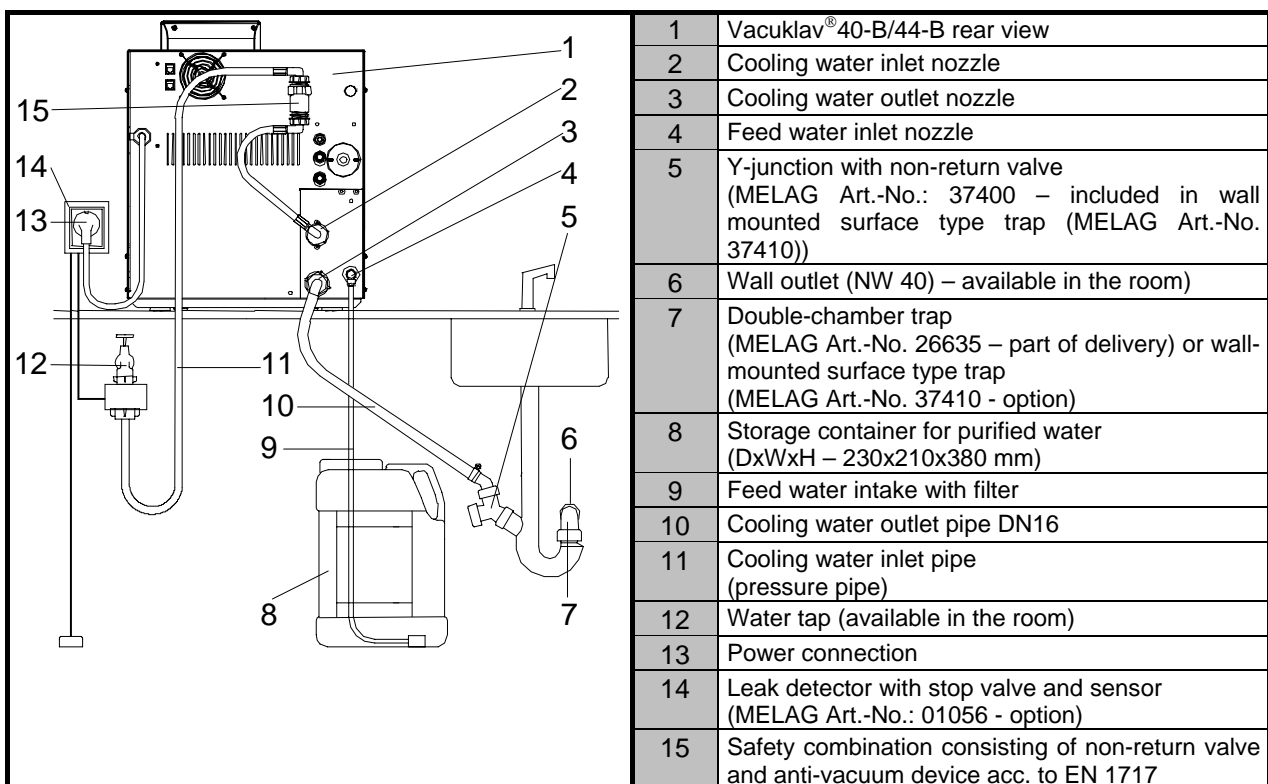
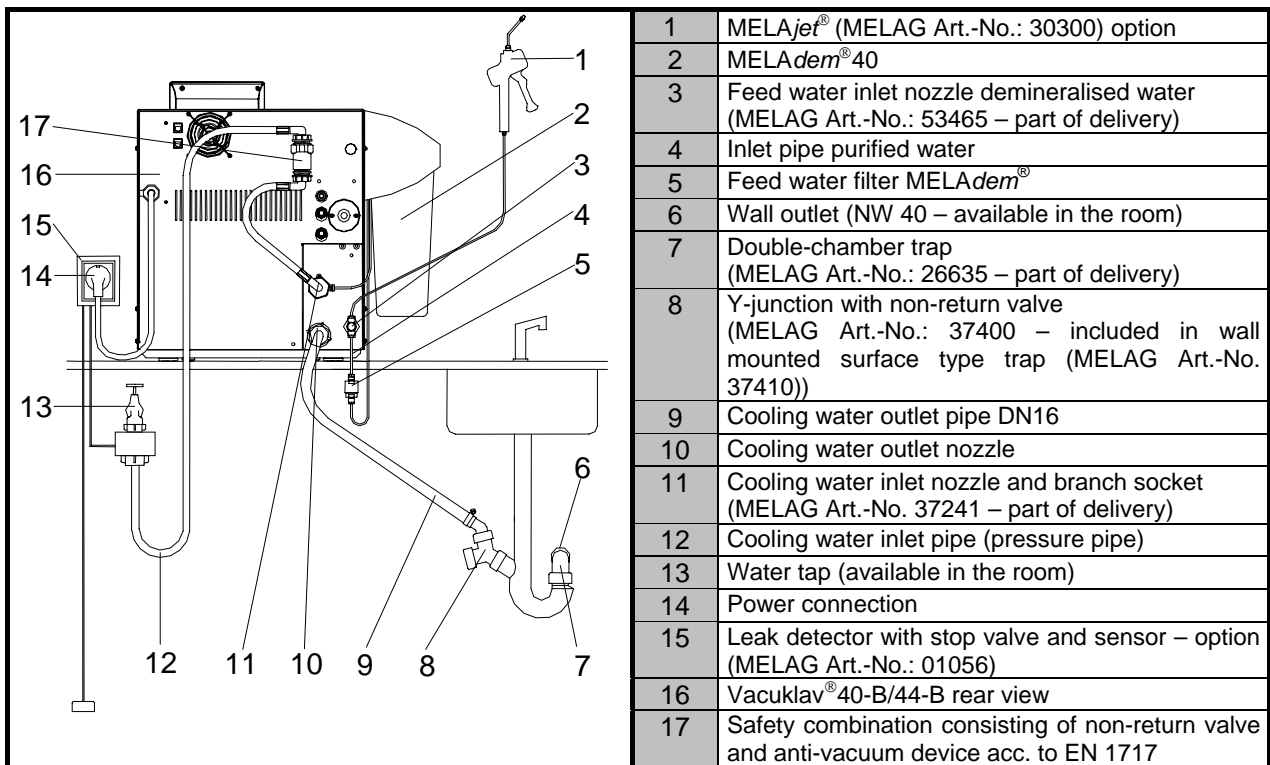
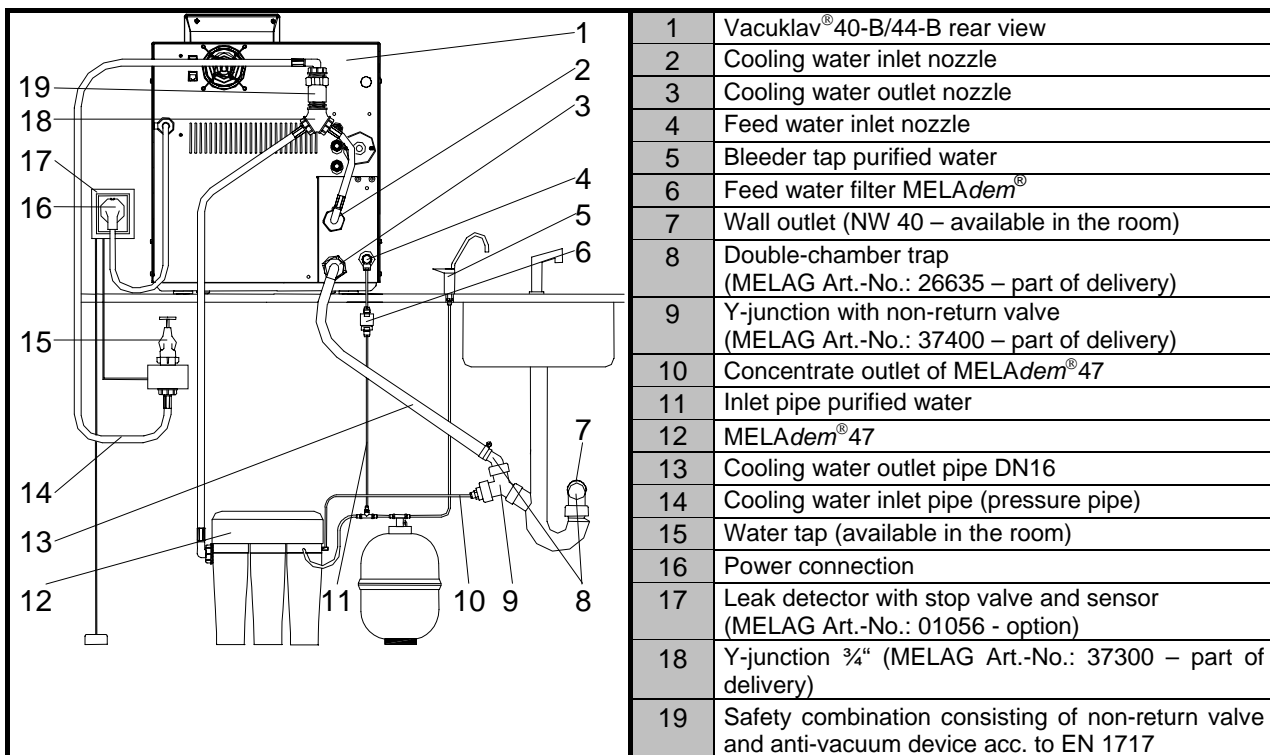

Figure 3
Figure 4
Figure 5
We recommend installing a leak detector with stop valve („water stop“, *Figure 3, Figure 4, Figure 5*, MELAG Art.-No.: 01056).
3.1 Indirect supply (example 1 – page 4, Figure 3)
3.2 Direct supply (example 2 – page 5, Figure 4)
3.3 Direct supply (example 3 – page 5, Figure 5)
1 storage container with 1.5 m inlet pipe and suction filter (in case of installation as in *Figure 3*)
1 inlet pipe 1.5 m and inlet nozzle (in case of installation as in *Figure 4* or *Figure 5*)